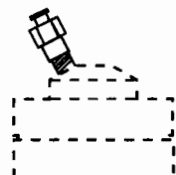

Fig. 3. Model 9013 connected to a Rheodyne sample injector.
a) Screw the Needle Port into an appropriate valve port for sample loading. Figure 3 shows Model 9013 Needle Port connected to an injector. Model 3012 connects to an injector the same way. Ensure the Teflon tube is bottomed in the valve port as shown in Figure 4.
Using Models 9013 and 3013 to load the sample loop, insert the syringe needle into Model 9013 or 3013 connected to a sample injector, and dispense two to five sample loop volumes of sample (see Figure 3).